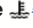

Fig. 10 Digital instrument cluster (Volkswagen Digital Cockpit) in the instrument panel.
Instrument explanations ⇒ Fig. 10 :
- 2 **Information profile displays.** The information shown depends on the selected information profile. The example above ⇒ Fig. 10 shows the Classic profile with no additional information shown.
You can choose between several information profiles in the **Views** menu in the Volkswagen Information System ⇒ Instrument cluster menus. The Volkswagen Digital Cockpit shows additional information in the center of the tachometer and the speedometer ⇒ Fig. 10 depending on the information profile you have selected. The following information profiles are available: